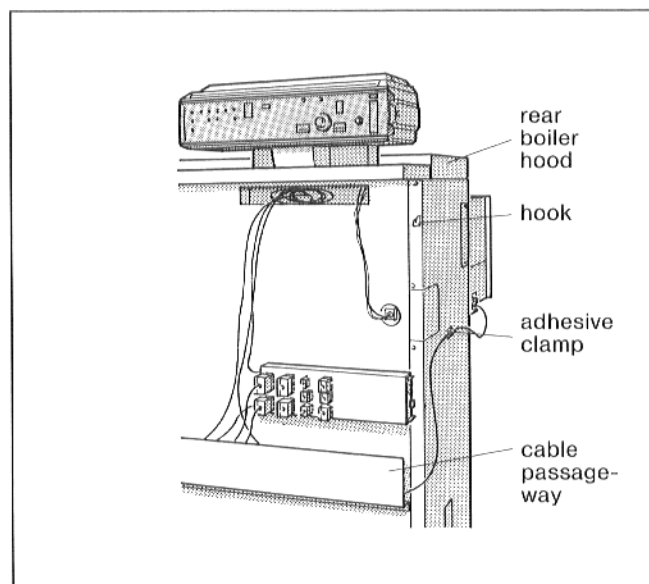

Fig. 42 - Boiler with rear boiler hood positioned
- Fit the front panel (front panels, resp.) on 4 (8 resp.) hooks (see Fig. 42).